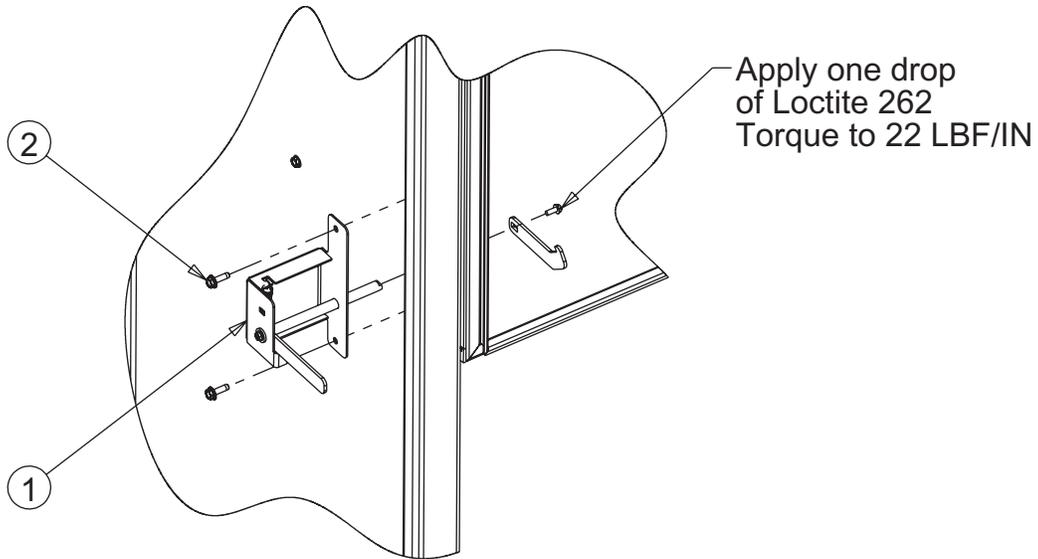

Figure 3
1. Referring to Figure 3, with the interlock arm removed, install the control enclosure interlock (Item 1) with the shaft passing through the hole in the control enclosure and into the Sequestr enclosure. Secure the interlock with the two remaining M6x20mm washer head cap screws (Item 2)